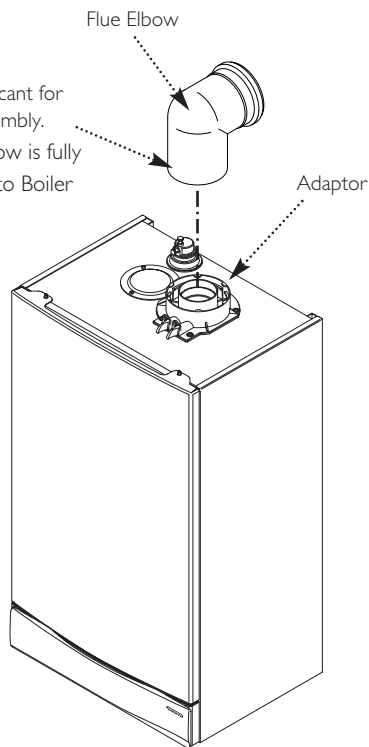

Fig. 50
2. Locate the flue elbow on the adaptor at the top of the boiler. Set the elbow to the required orientation (Fig. 50). The elbow is fully engaged when there is a distance of 20mm from the adaptor to the indicator line (Fig. 49).